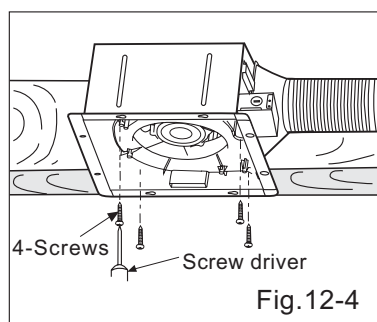
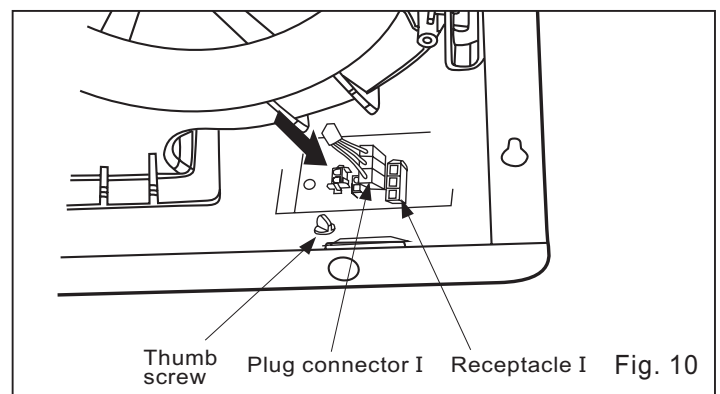

Fig.12-4
Fig. 10
6. Secure the fan body to adaptor by using thumb screw and plug connector to receptacle(Fig.10)
5. Secure the adaptor to fan body by using thumb screw. (Fig.10)
8. Secure the blower. (Fig.12-4) and plug connector to receptacle (Fig.10)